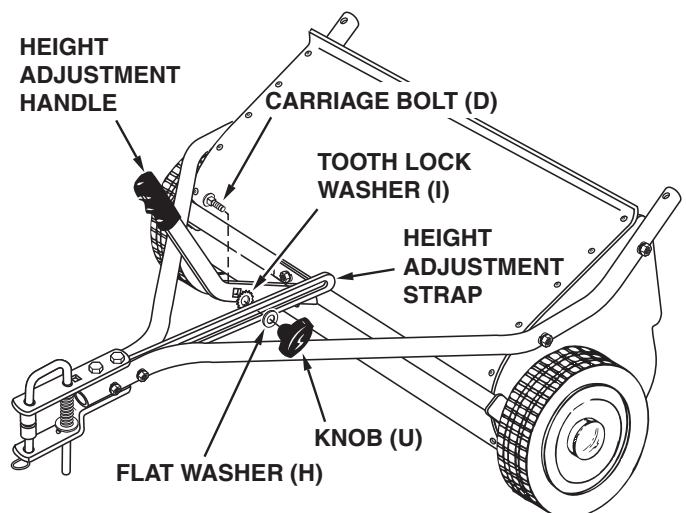

FIGURE 6
- Place the tooth-lock washer (I) between the height adjustment handle and the height adjustment strap. Insert the carriage bolt (D) through the handle, the tooth-lock washer and the strap. Assemble the flat washer (H) and the plastic knob (U) onto the end of the bolt and tighten. See figure 6.